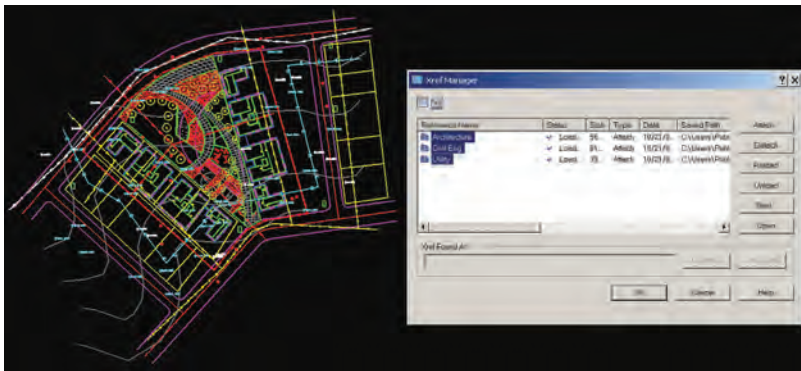
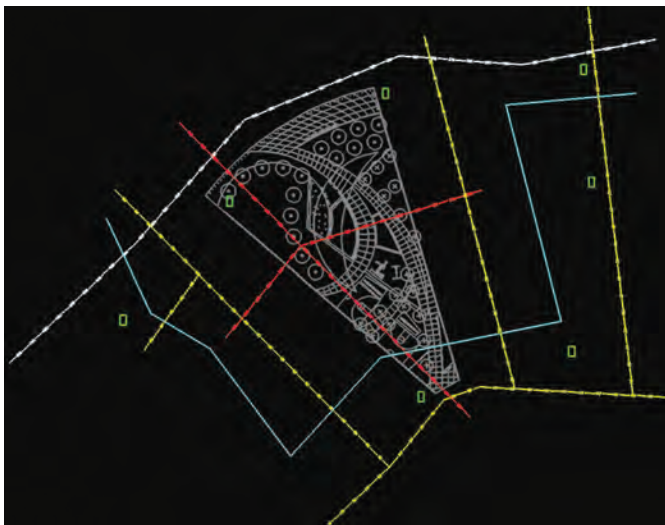
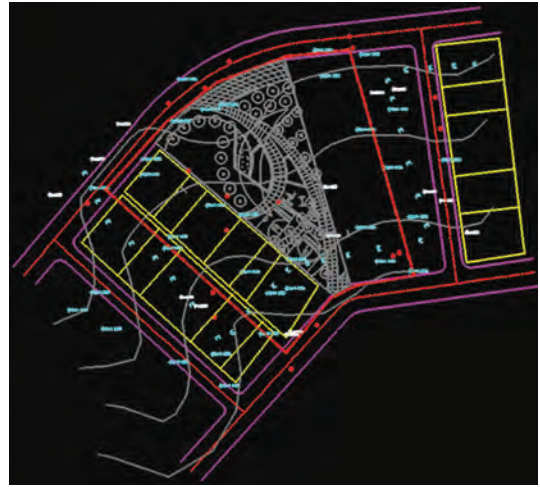

Fig. 17-4: The AutoCAD Xref menu and Xref files. To the left of the menu is the overall site plan file with all the Xref information visible.
Fig. 17-5: The Xref Utility file information. The site plan is indicated in gray.
Fig. 17-7: The Xref Civil Engineering file shows the roads, plats, spot elevations, and grades.
At first glance, identifying and organizing the information in the AutoCAD files may seem like a daunting task—especially when External Reference AutoCAD files (Xrefs) are present. However, you can use a systematic approach to organize the linework and blocks into coherent and usable information. By using a systematic approach, you can divide your overall task into smaller tasks that you can easily handle. This approach starts with editing and then deleting all of the Xref files. Fig. 17-4 illustrates a complete AutoCAD file that includes associated Xref information. Examples of Xref files are illustrated in diagrams Fig. 17-5 through Fig. 17-7.
- a. To detach the Xrefs, type **Xref** at the AutoCAD command prompt. This will bring up the External Reference menu listing all the Xref files (Fig. 17-4).